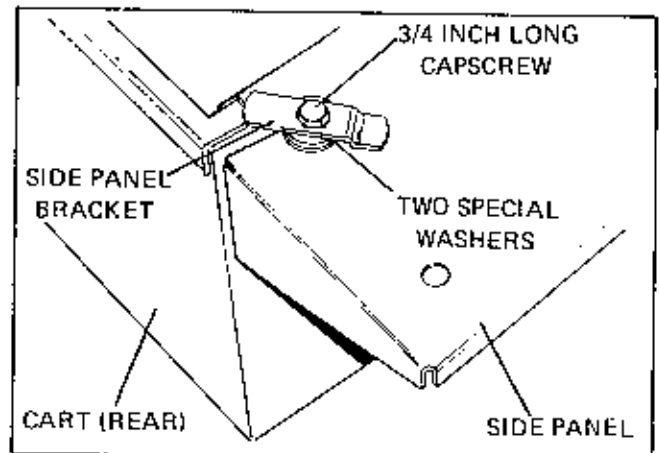

FIGURE 21
7. Secure bracket to inside rear of side panel with two special washers (above side panel), a flat washer (under side panel), a 3/4 inch long capscrew, and locknut (Figure 21). Position side panel bracket at angle illustrated. Repeat procedure for remaining rear corner.